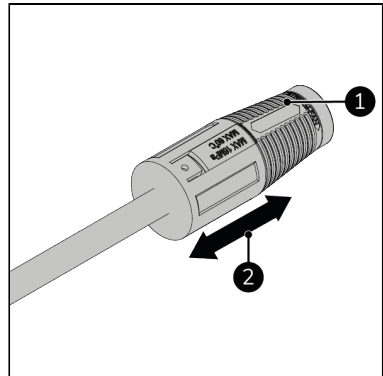

Figure 37.
1. To change the pressure of the adjustable nozzle (Figure 37, pos. 1):
- Slide forward for a low pressure (Figure 37, pos. 2);
- Slide backwards for a high pressure (Figure 37, pos. 2).